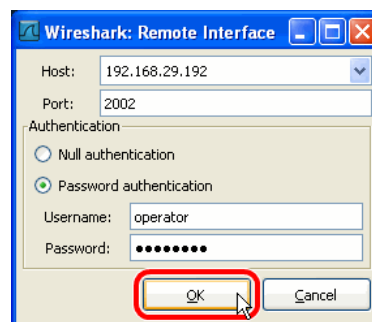

Figure 378: Wireshark Remote Interface Dialog.
4. Enter the correct settings for **Host** and **Port** (default 2002) and, if authentication is enabled, enter **Username** and **Password** in the corresponding fields as shown in Figure 378.